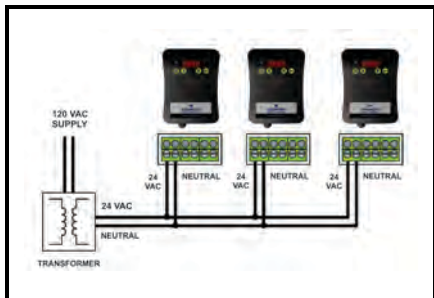

Figure 3-3 - Maintaining Neutral Polarity
**WARNING: Neutral polarity must be maintained across units. Refer to Figure 3-3.**